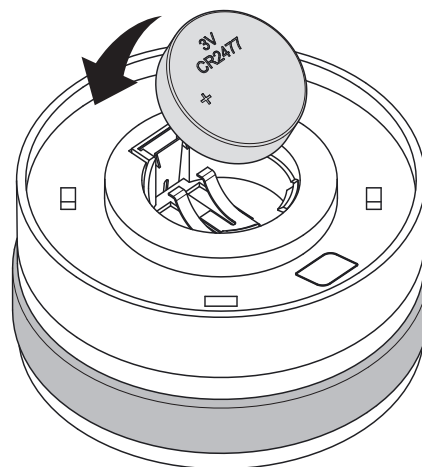

Figure 23.3
3. The appliance receptacle is located on its lower, back right hand corner. Install the cord to the appliance receptacle and to the wall (Figure 23.3).